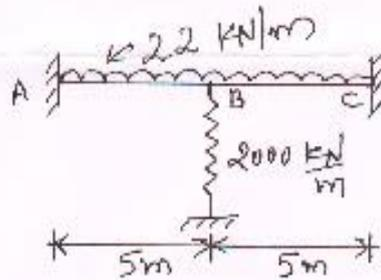

Figure 5
Q.5 Analyse the beam shown in Figure 5, using member approach stiffness **14**